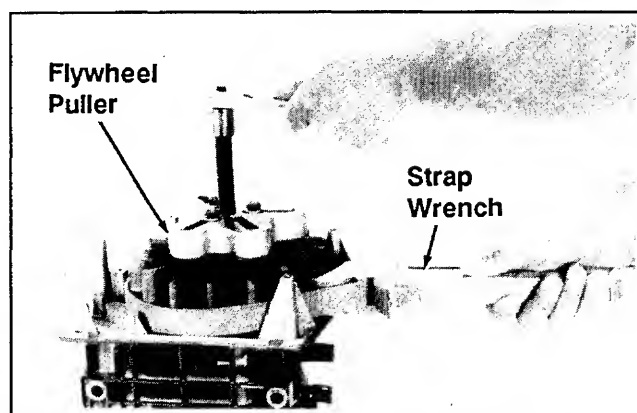

Figure 9-22. Removing Flywheel Using A Puller.
2. Remove the flywheel from the crankshaft using a puller. See Figure 9-22.